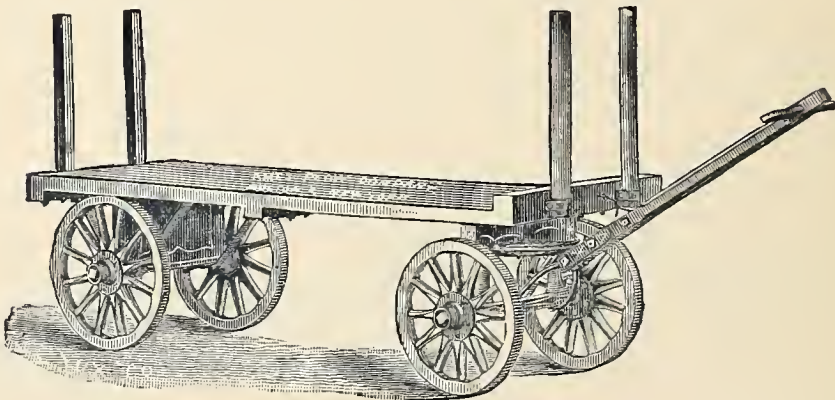

Fig. 515. — Four-Wheel Freight-Truck.
*The Four-Wheel Freight-Truck*, represented by *Fig. 515*, is less expensive than the BAGGAGE-TRUCK. It is strongly and durably made of best material, and well finished; and there is nothing better suited for the purpose.